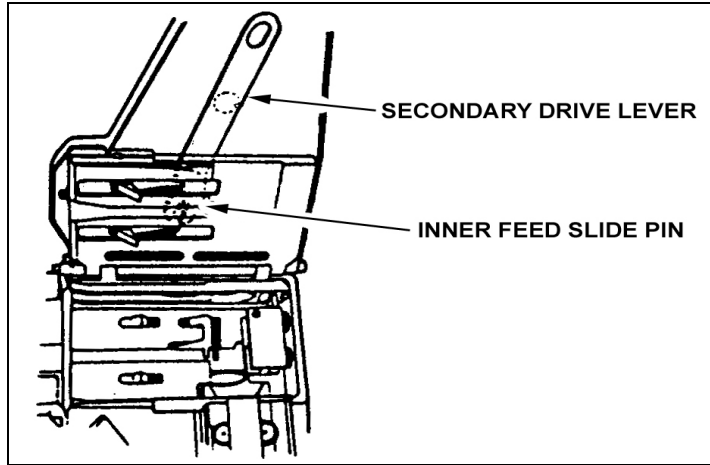

Figure 2-24. Installation of the secondary drive lever.
- (7) Install secondary drive lever by following these procedures (Figure 2-24):